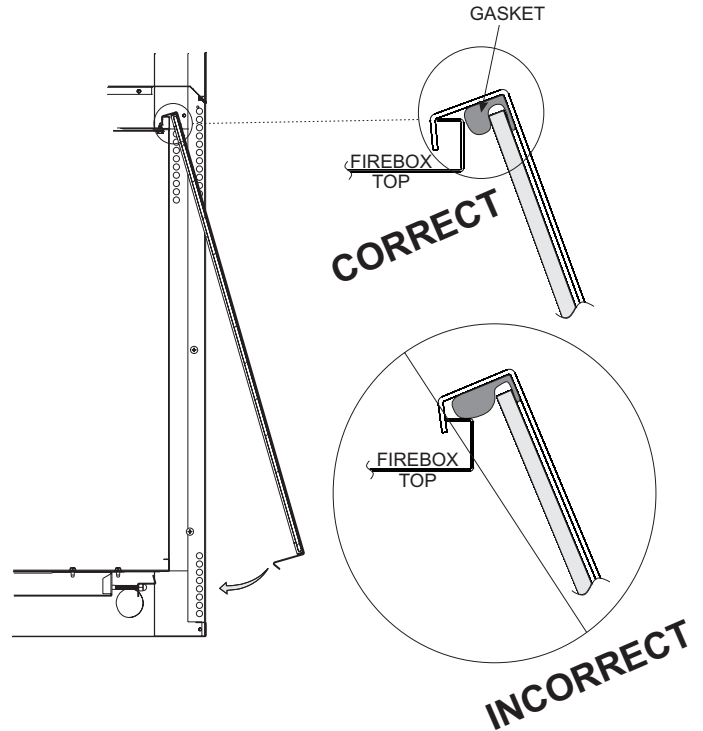

Figure 78
7. Reinstall glass front by hanging the top of the frame on top of the firebox, making sure the gasket at the top is positioned in front of the firebox flange and not on top **See Figure 78.**
1. When installing the glass door, make sure that the door top flange is hooked over the firebox top flange as illustrated in the "Correct" view in Figure 78.
**Important: Do not allow the gasket across the top of the door to roll up on top of the firebox flange as shown in "Incorrect" view in Figure 78.**
- Check all latches or other door retention components for proper operation, tension, and relief mechanisms are free from obstructions. **See Figure 78.**